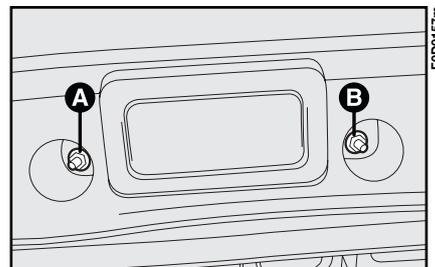

fig. 24
1) loosen the two nuts **A**-fig. 24 set inside the vehicle near the rear ceiling light;